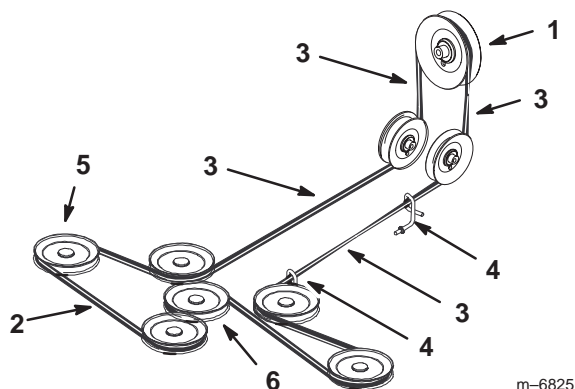

Figure 72
5. Install the new mower belt around the mower spindle pulleys, mower idler pulley, into the belt guides, into rear idler arm assembly, and the clutch (Fig. 72).
Important Check the amount of twist in the belt between the pulleys. Make sure it is only what is specified in Figure 72.